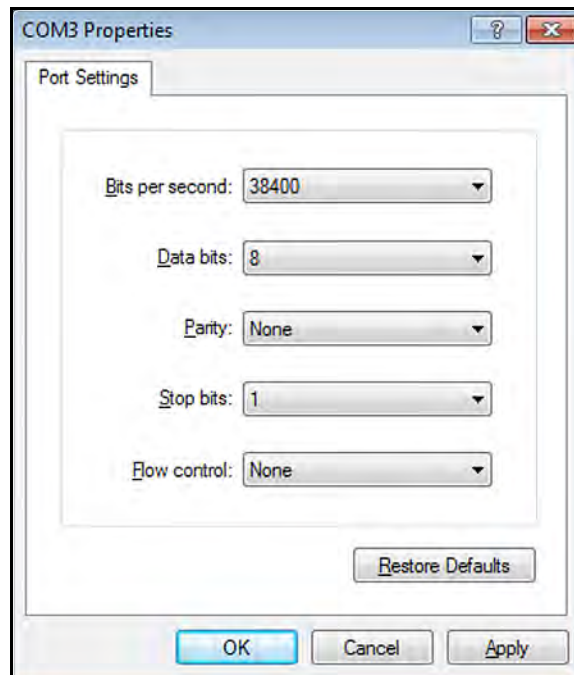

Figure 13: COM Properties
2. Start *HyperTerminal* and set up the communication link to match the Com port and RS232 settings of the PT878 (see *Figure 13* below).